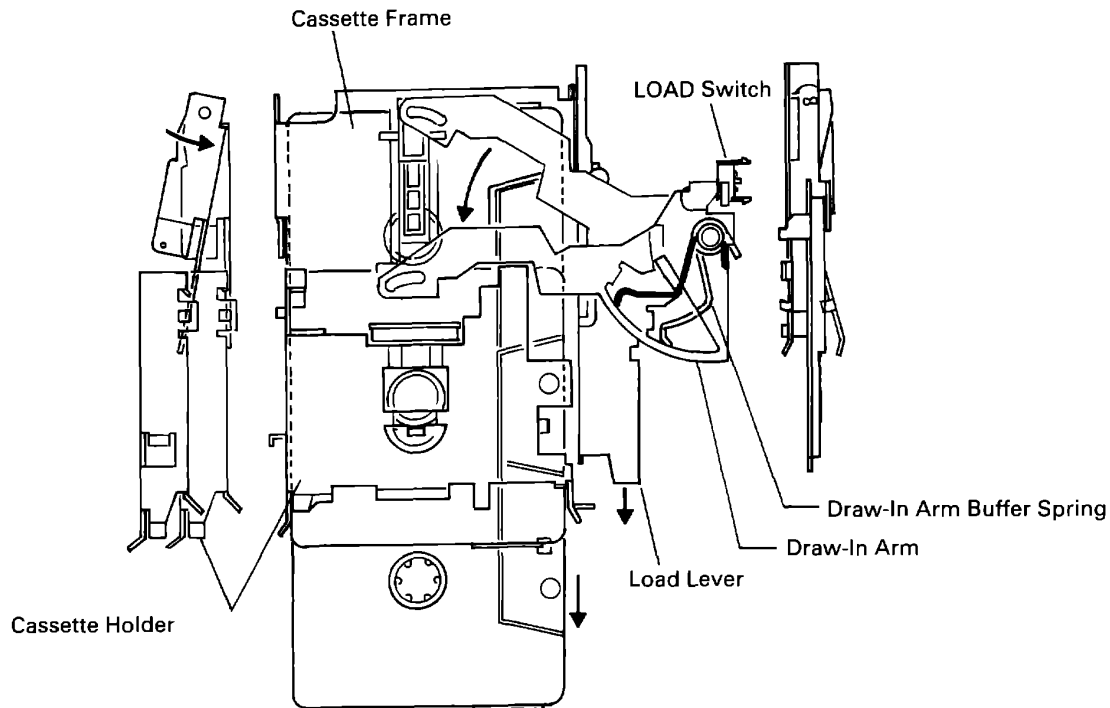
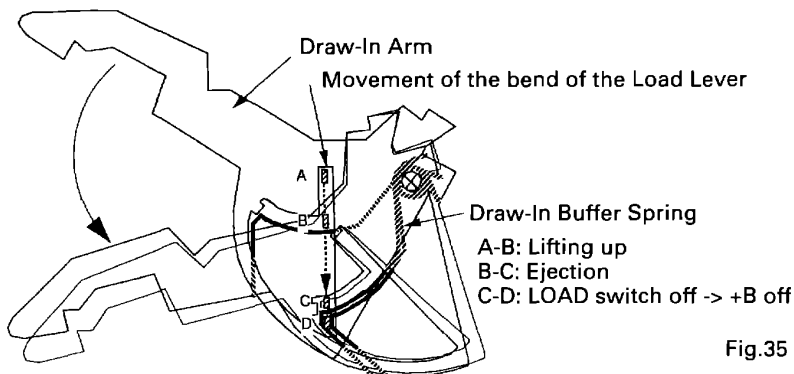

Fig.34
Fig.35
② In the figure 34, when the Load Lever slides downwards, the Cassette Frame is first raised with the cam part of the Load Lever (Fig. 36). And then, the bend of the Load Lever passes through the cam part consisting of the Draw-In Arm and the Draw-In Buffer Spring (Fig. 35). At this time, the Draw-In Arm Buffer Spring is pressed. It causes the Draw-In Arm to rotate and a cassette to be ejected.
③ Immediately before the completion of ejection by the Draw-In Arm, the LOAD Switch is turned off, and the +B line is also turned off 360msec later under microcomputer control. Then, the Draw-In Arm rotates further to complete ejection.